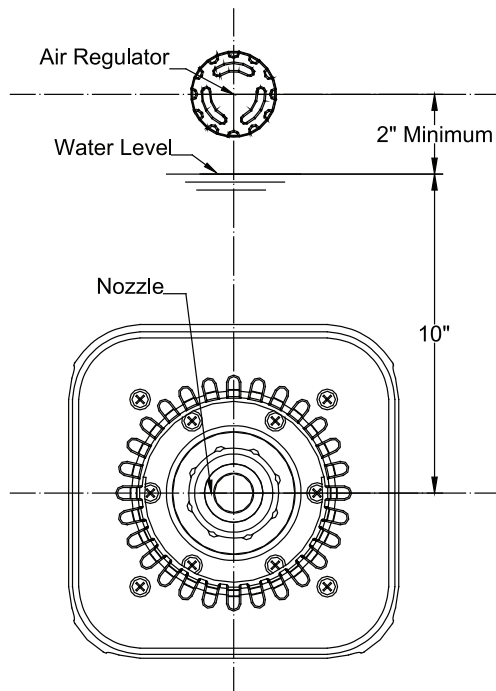

Figure 8
1. Using the clamping ring (part #3) as a template, drill holes in the pool wall for installation. The center line of the clamping ring should be 10" below the surface of the water. (See Figure 8) Two additional holes need to be drilled at the 3 and 9 o'clock positions for installation of the housing (part #7). The four brass inserts in the clamping ring should be at the 2, 4, 8 and 10 o'clock positions.